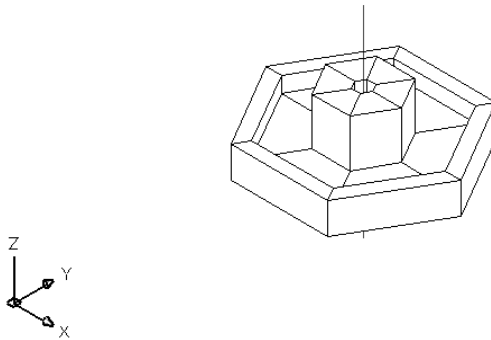

Figure 23-26: The revolved surface.
10. Save your drawing. It should look like Figure 23-26.